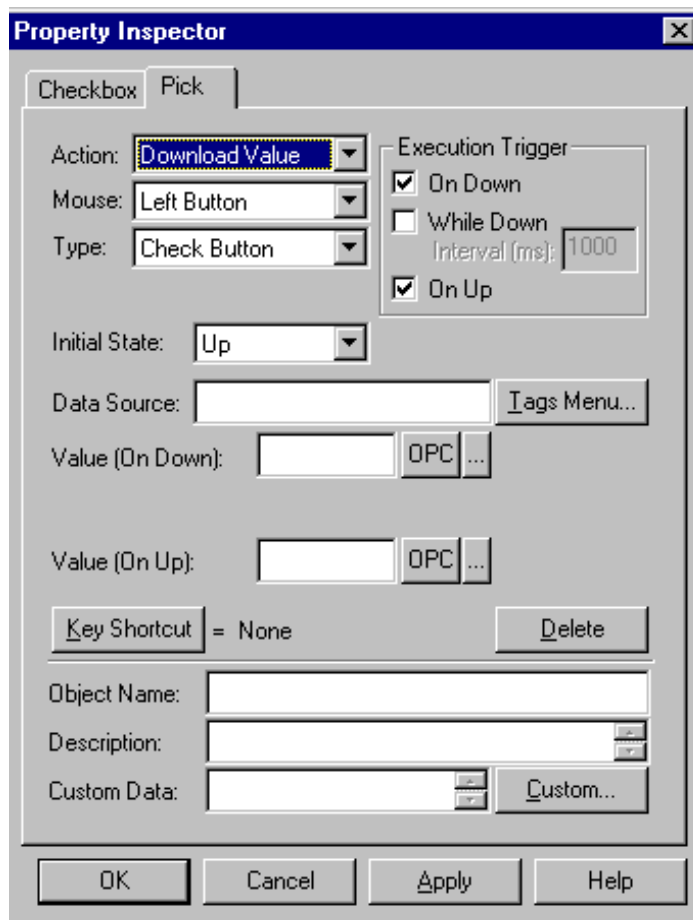

Figure 11-17: Property Inspector for Checkbox Dynamic
2. Click in the work area. The Property Inspector appears with tabs for Pick (same tab as the pick dynamic) and Checkbox (Figure 11-17).